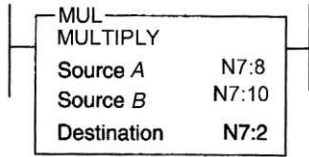

Figure 11-16 Logic rung for question 8.
8. The rung of Figure 11-16 is telling the processor to multiply the values stored in words (a) ___ and store the product in word (b) ____.